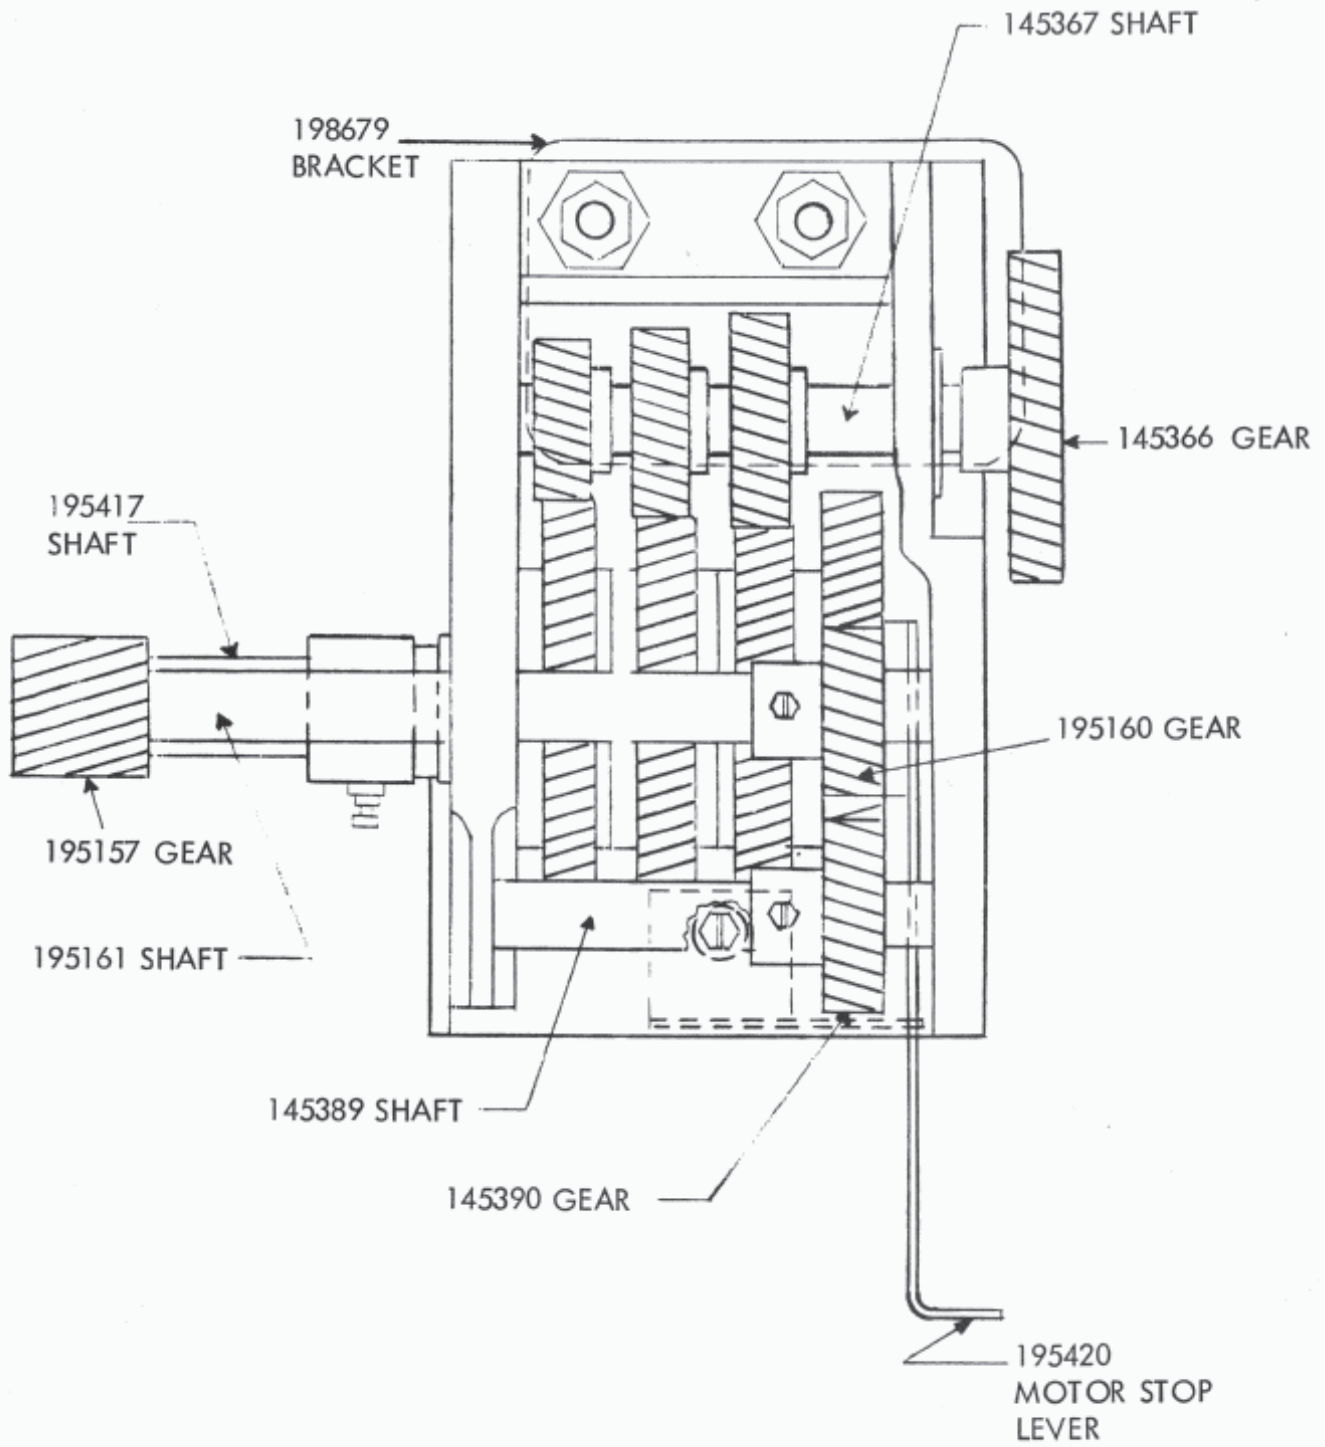

FIGURE 3
i. Place 130499 ball bearing into the hole in the gear bracket opposite the bronze bearing. Fasten the bearing in place with two each 151631 screw, 2191 lockwasher, and 90790 flat washer. Put small end of 195161 shaft thru bronze bearing from outside of bearing bracket. Slide 195160 gear over shaft inside the bearing bracket with the hub towards the bronze bearing. Fasten end of shaft to ball bearing with 151630 screw, 2191 lockwasher, and 151610 flat washer. Refer to Figure 3.
j. Fasten the 195160 gear to the shaft with 151658 screw and 2191 lockwasher. Fasten the 195157 gear to the end of the 195161 shaft with the hub towards the casting with 151658 screw and 2191 lockwasher. Refer to Figure 3.
p. If a time delay mechanism is to be used, insert the 195420 pawl into the gear bracket assembly. The open end of the pawl fits on the eccentric hub of the 195418 gear. Refer to Figure 3.